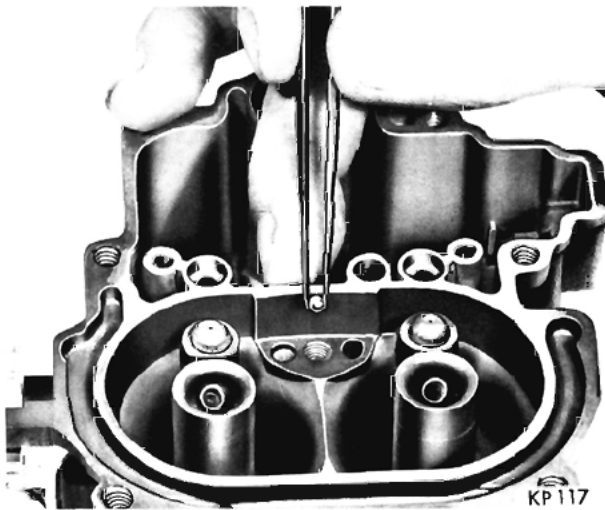

Fig. 11—Installing Discharge Check Ball
(7) Install the accelerator pump discharge check ball ( $1/8$  inch diameter) in the orifice in the center passage of the discharge strut section of the main body, as shown in (Fig. 11).